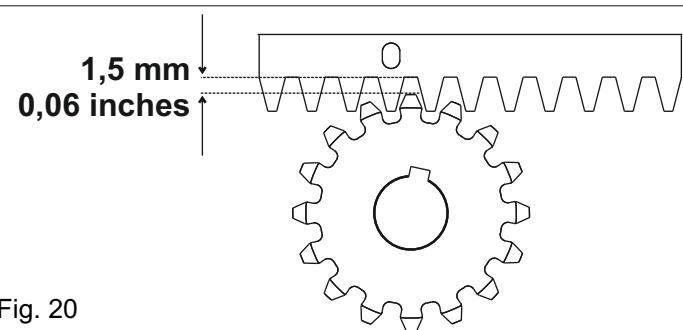

Fig. 20
- f) To avoid that the gate weights down the pinion (Fig. 20) lift up the whole rack about **1,5 mm / 0,06 inches**. **Warning:** Keep a gap of about **0,5 mm / 0,02 inches** between pinion tooth and gear rack tooth;